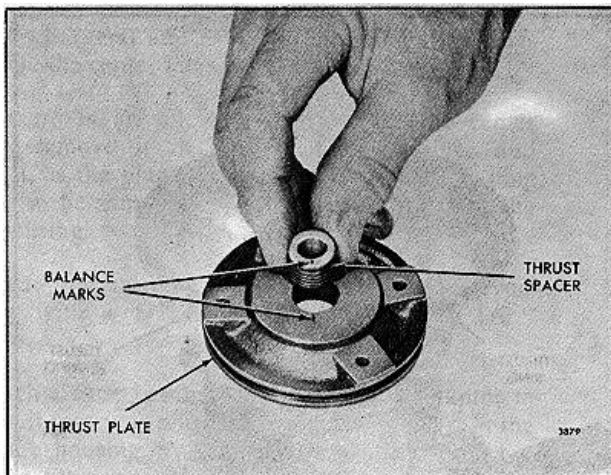

FIG. 29 - Installing Thrust Spacer in Center Housing Thrust Plate
9. Remove the thrust plate from the center housing. Then install the thrust spacer and seal ring assembly in the thrust plate (Fig. 29).